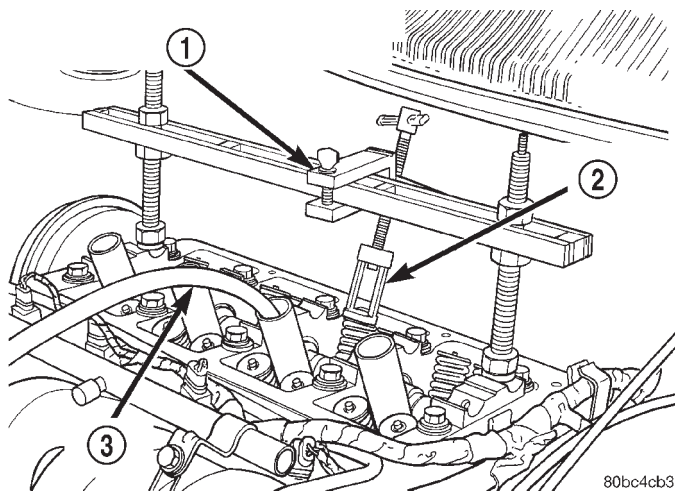

Fig. 52 Valve Spring—Removing and Installing
- (1) Remove rocker arm shaft assemblies. Refer to procedure in this section.
- (2) Rotate crankshaft until piston is at TDC on compression stroke.
- (3) With air hose attached to adapter tool installed in spark plug hole, apply 90-120 psi air pressure.
- (4) Using Special Tool MD-998772A with adapter 6779 (Fig. 52) compress valve springs and remove valve locks.